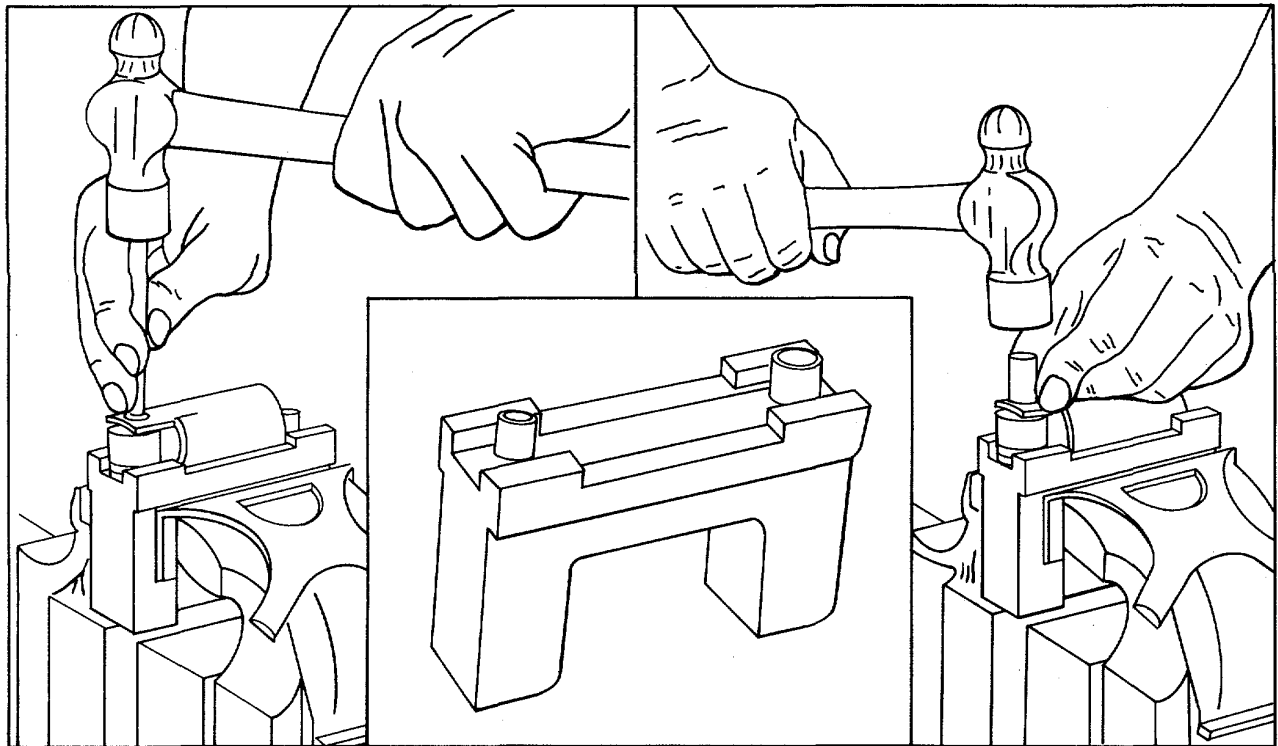

Figure 7. Removing or Installing Cam Follower Roller and Pin
1. Clamp fixture J 5840-01 securely in a vise as shown in Fig. 7. Then place the cam follower in the groove in the top of the fixture, with the follower pin resting on top of the corresponding size plunger in the fixture.